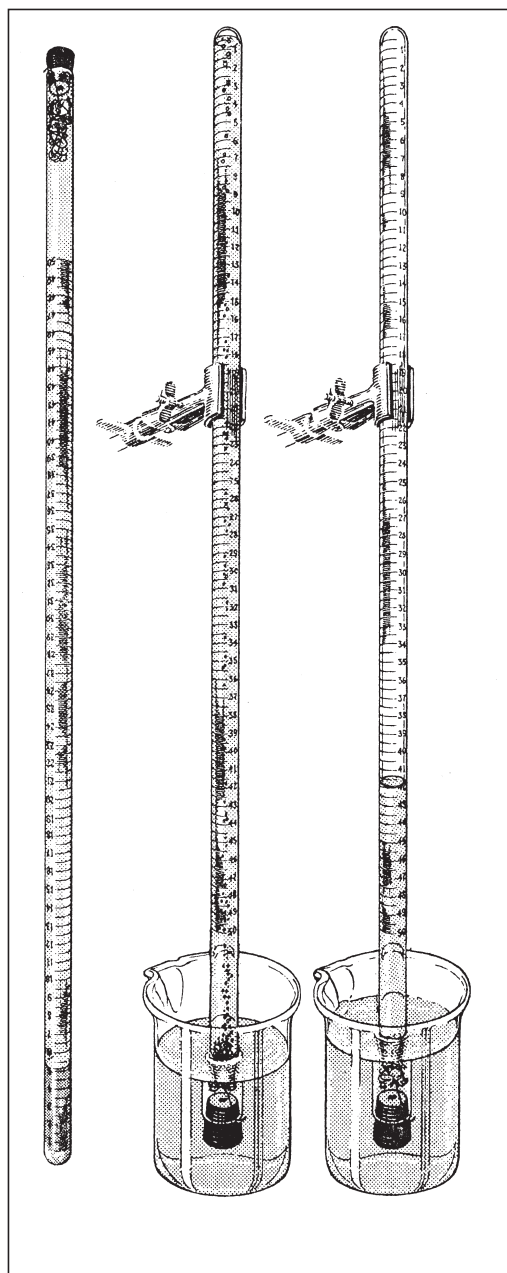

Figure 1:
1. Obtain a 30 cm length of copper wire. Form a coil by wrapping the wire around a large test tube, leaving about 7 cm straight for a handle. Stretch the coil a little so there is some space between the loops (see Figure 1). Weigh the copper coil to the nearest 0.01 g.
7. Shake the crystals off the coil and lift the coil from the solution. Use your wash bottle to rinse into the beaker any crystals that tend to adhere to the coil. (See Figure 1.) Set the coil aside to dry. Weigh it when dry.
2. Fold the magnesium ribbon so that it can be encased in a small spiral cage made of fine copper wire. Leave about 5 cm of copper wire to serve as a handle (see Figure 1).
3. Set up a ring stand and utility clamp in position to hold a 50 mL gas measuring tube that has been fitted with a one- or two-hole rubber stopper, as shown in Figure 1. Place a 400 mL beaker about two-thirds full of tap water near the ring stand.
6. Holding the copper coil by the handle, insert the metal about 3 cm down into the tube. Hook the copper wire over the edge of the tube and clamp it there by inserting the rubber stopper. The tube should be completely filled so that the stopper displaces a little water when put in place (see the left of Figure 1).
7. Cover the hole(s) in the stopper with your finger and invert the tube in the container of water, as shown in the middle of Figure 1. Clamp it in place. The acid, being denser than water, will diffuse down through it and eventually react with the metal.